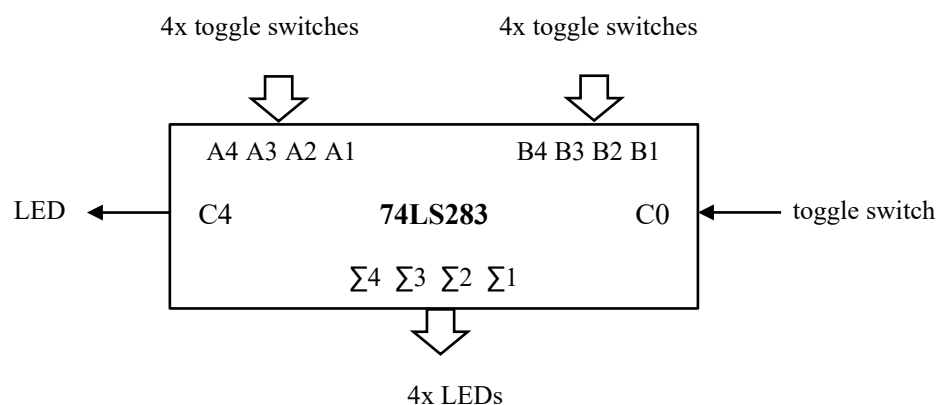
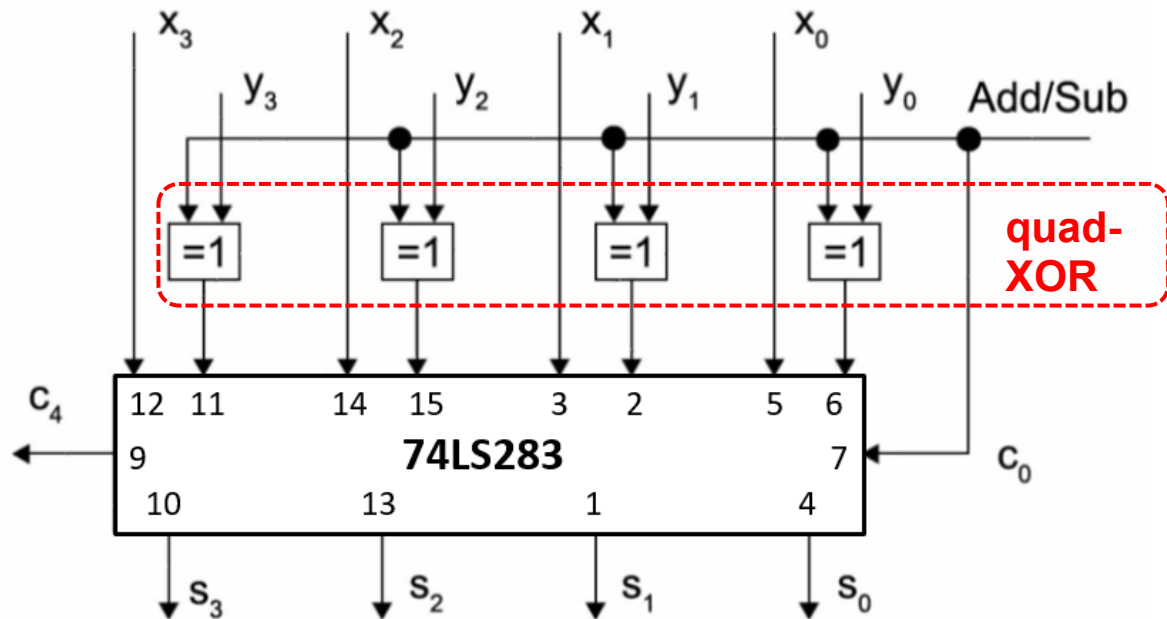

Figure 3: 4-bit binary adder with toggle switches and LEDs connected
Figure 4: 4-bit adder/subtractor circuit
- 5.1.1 Figure 3 shows the experiment setup. Refer to steps 1-6 of Lab 2 circuit connection guide.pdf for a pictorial guide.
- 5.2.1 The next few steps will modify the circuit you have built in section 5.1 such that it can perform 2's complement addition ($X+Y$) and subtraction ($X-Y$), as shown in Figure 4. For your convenience, the pin numbers on the 74LS283 device are provided.
- 5.2.3 Remove the connections between the toggle switches and inputs B4,B3,B2,B1 in Figure 3. Instead, connect these toggle switches to one input of each of the four XOR gates on the 74LS86 IC. These form the inputs y3, y2, y1, y0 in Figure 4.
- 5.2.4 Connect the other input of each of the four XOR gates together, and connect it to the same toggle switch that has been earlier connected to C0 in section 5.1 (see Figure 3). This forms the Add/Sub input in Figure 4.